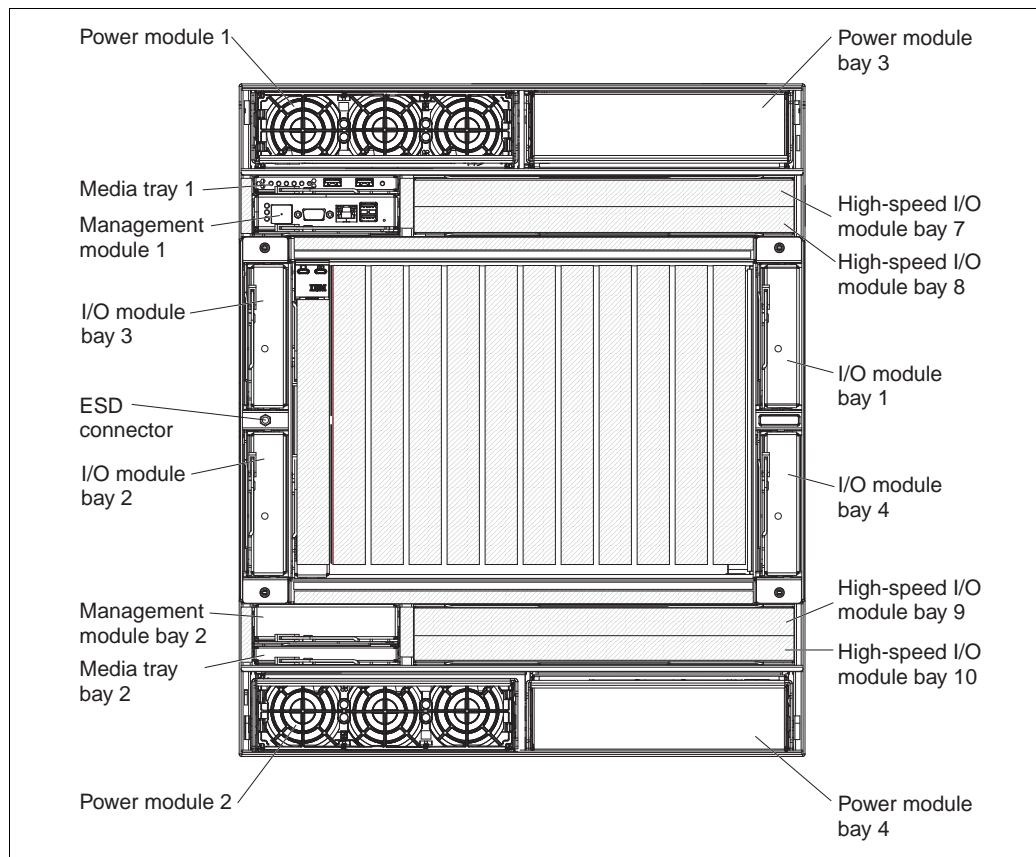
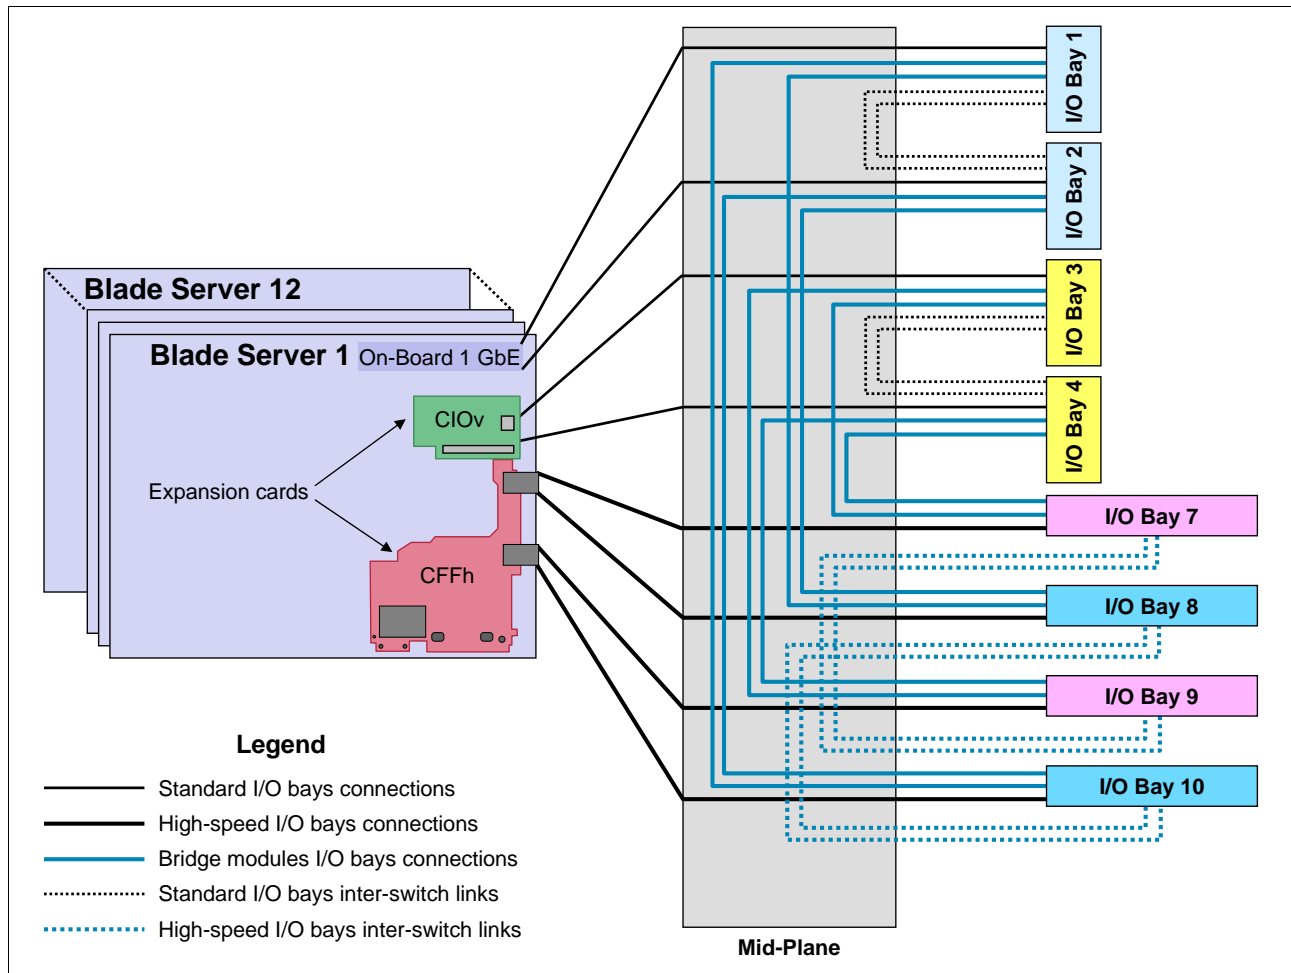

Figure 2-12 The BladeCenter HT chassis
Figure 2-14 IBM BladeCenter HT I/O topology
Figure 2-12 show the front view of the BladeCenter HT with the key chassis features.
The BladeCenter HT chassis has a total of eight I/O bays (Figure 2-12 on page 57). Each blade bay has a total of eight dedicated connection paths to the I/O modules (Figure 2-14).
- ▶ I/O bays 1 and 2 are connected to high-speed I/O bays 8 and 10 in a redundant manner, and bays 3 and 4 are connected to bays 7 and 9 in a redundant manner (Figure 2-14).